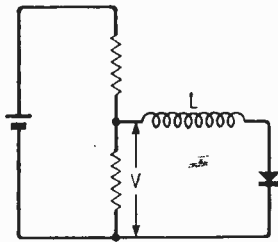
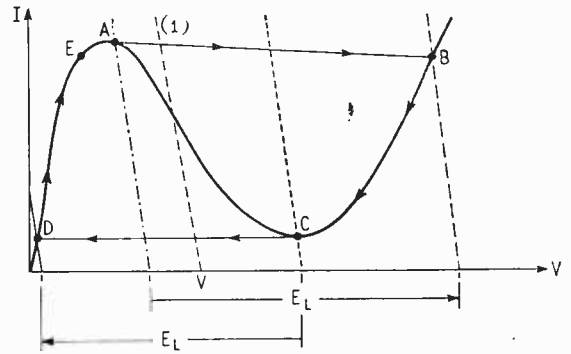

Fig. 1. Elements of tunnel diode oscillator circuit.
Fig. 2. Locus of operating point in circuit of Fig. 1.
A consideration of the basic action of the tunnel diode multivibrator will indicate how this precision is obtained. Consider the circuit of Fig. 1. The tunnel diode is biased into its astable region on the negative-resistance portion of the characteristic shown at (1) in Fig. 2. The slope of the load line (1) is the resistance of the source plus the resistance of the inductance  $L$ . Any random fluctuation of current will produce an e.m.f. in the inductance which will carry the circuit into a semi-stable state and a relaxation oscillation occurs. Commencing at
The slope resistance of the diode from D to E, Fig. 2, is very low compared with the resistance  $R$ , so that the synchronizing pulses occurring during this time interval when the current is rising from D to E are almost entirely suppressed. Between E and A the incremental resistance sharply rises